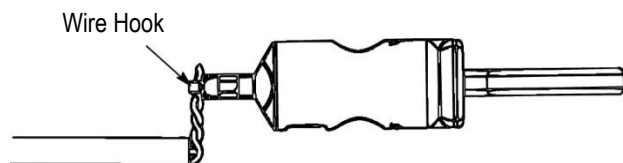

Figure 4
**5. UNTWISTING TWISTED WIRE PAIRS** (Figures 4 & 5)
2. Place the twisted wire pair in the wire hook and release the plunger to clamp the wires. See Figure 4.